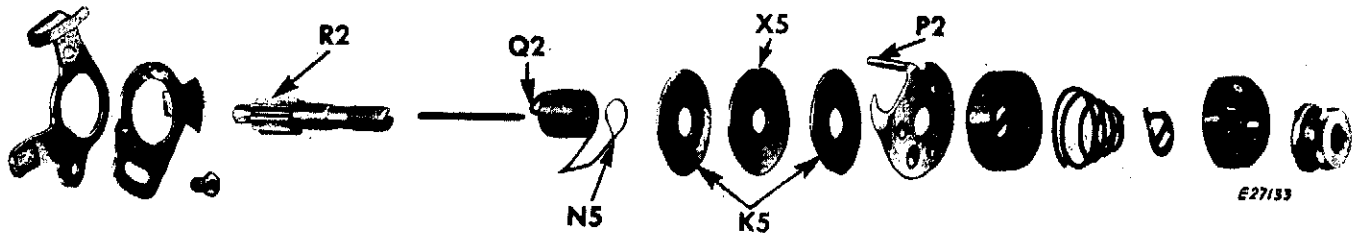
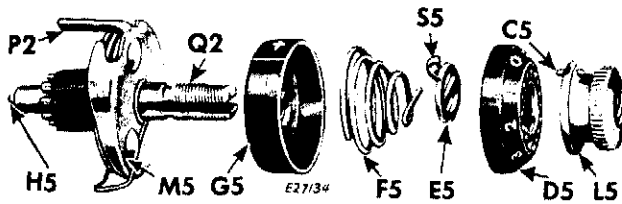
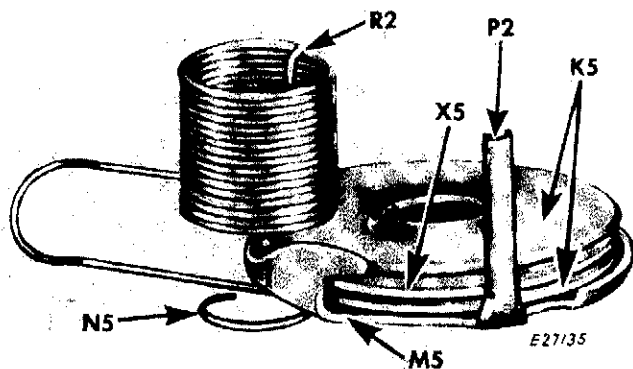

Fig. 306. Needle Thread Tension — Exploded View
Fig. 307. Needle Thread Tension Disassembled
Fig. 308. Tension Disc Assembly
1. Turn thumb nut **L5**, Fig. 307 to left (counter-clockwise) until "0" on numbered dial **D5** stops at center line on indicator **G5**, Fig. 307.
2. Press in dial **D5**, separating pin **C5** in thumb nut **L5** from hole in dial **D5**; unscrew thumb nut **L5** and remove it from stud **Q2**, Fig. 307.
NOTE: It is not necessary to remove stud **Q2** from machine to disassemble the thread tension. It is shown removed in Figs. 306 and 307, to illustrate complete assembly. See page 132 for instructions on removal and replacement of entire tension assembly.
3. Other parts may be removed from the stud **Q2** in the order which they are shown in Figs. 306 and 307.
1. Replace parts on stud **Q2** in the order in which they are shown in Figs. 306 and 307.
2. Make certain that tension releasing pin **H5** is in place as shown in Fig. 307.
3. Place the two tension discs **K5** with their convex faces against flat disc **X5** in center, as shown in Fig. 306. These three tension discs should be behind thread take-up spring thread guard **M5**, as shown in Fig. 307.
4. Pass eyelet **N5**, Fig. 306 of take-up spring under thread guard, having coils of spring above tension discs, as shown in Fig. 308.
5. Guide the tension disc assembly on the stud **Q2**, so that extension **P2**, **Figs. 306, 307 and 308** enters hole, provided for it in machine arm and so that the tail **R2**, **Fig. 308**, inside the spring coil, enters one of the grooves at the rear of the stud **Q2** (see also **page 132**).
6. Replace indicator **G5**, **Fig. 307** with its large open side facing the split end of the stud — with plus and minus mark on top — "minus" at left and "plus" at right.
7. Hold these assembled parts against shoulder of stud, insert tension spring **F5**, **Fig. 307** in indicator, with first half-coil of spring **F5** straddling lower half of split stud.
9. Place the numbered dial **D5**, **Fig. 307** so that the number "2" is opposite stop washer extension **S5**.